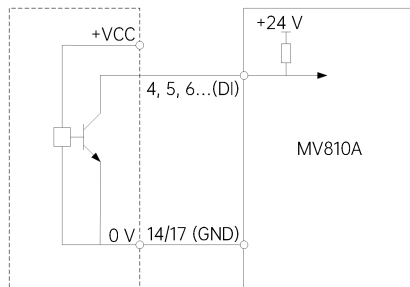

Figure 2-9 Wiring when using the NPN type external controller
② Wiring when the external controller adopts the NPN common emitter output, as shown in Figure 2-9.